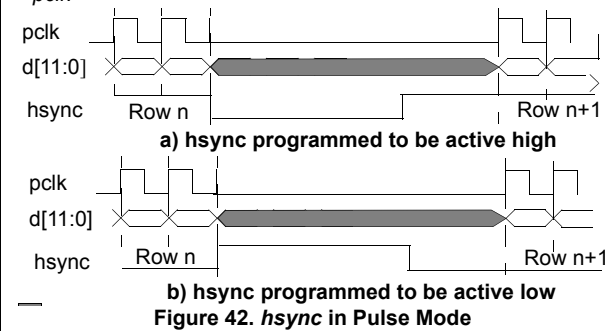

Figure 42. hsync in Pulse Mode
- Pulse mode should be used when the pixel clock, *pclk*, is programmed to operate in *data ready mode*. In pulse mode the *hsync* output pin will produce a pulse at the end of each row. The width of the pulse will be a minimum of four *pclk* cycles and its polarity can be programmed as shown in Figure 42. The *hsync* level is always synchronized to the active edge of *pclk*.